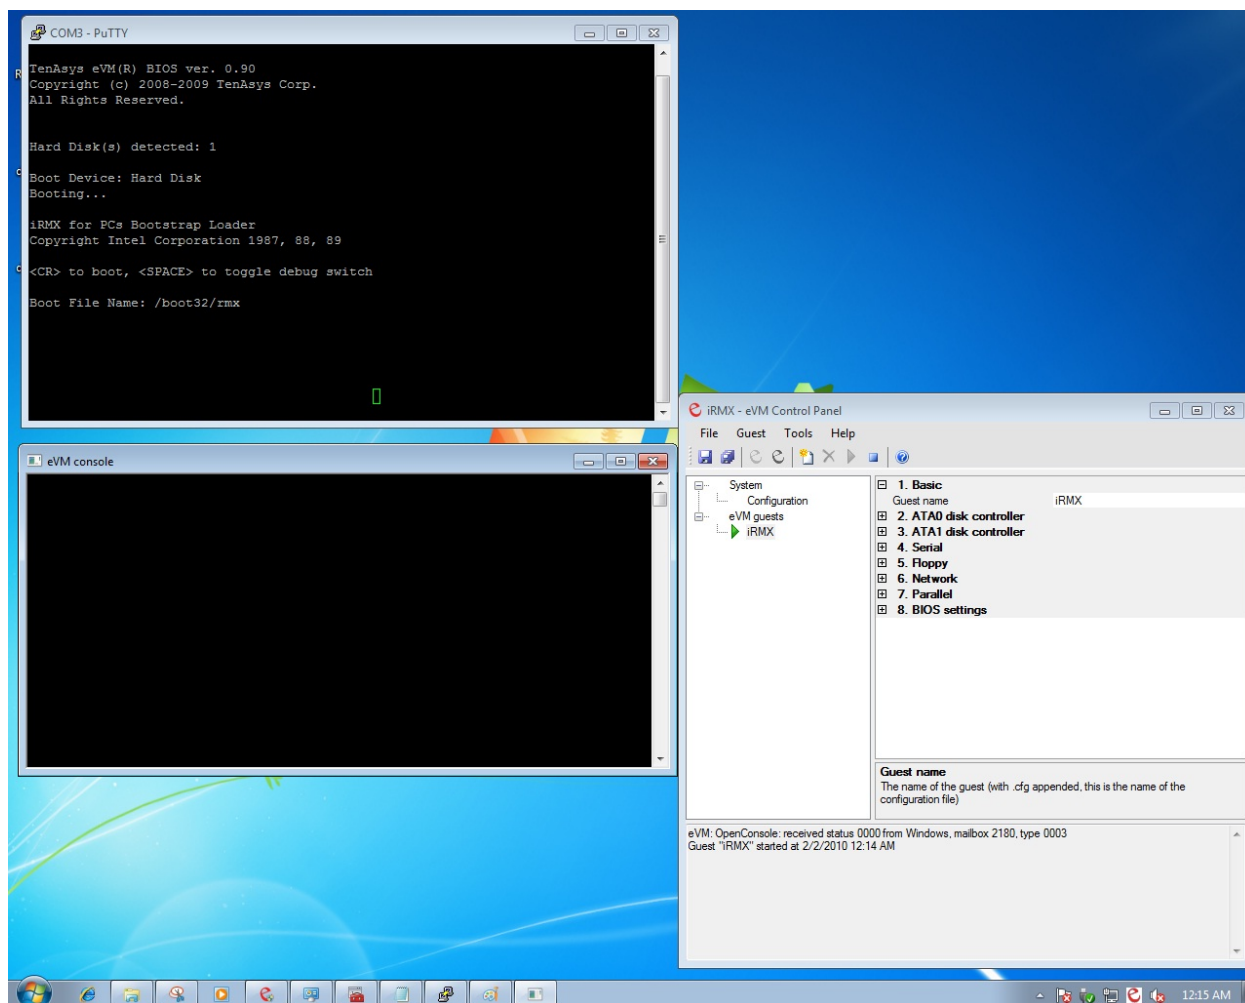

Figure 4.36 - Guest RTOS, iRMX, Booting in the Virtual Machine
4. The guest OS, iRMX, will boot in the virtual machine, an eVM Console window will open, and the default debug output from iRMX will be output to the virtual COM device and show up in the terminal emulator window, Figure 4.36.